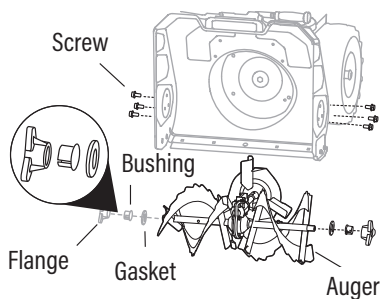

Fig. 1A
1. Remove the three screws on both left and right of the auger housing. (Fig. 1A)
2. Remove the auger, together with the gearbox as a whole set from the housing. Then remove the flange, bushing, and gasket from the auger shaft. (Fig. 1A)